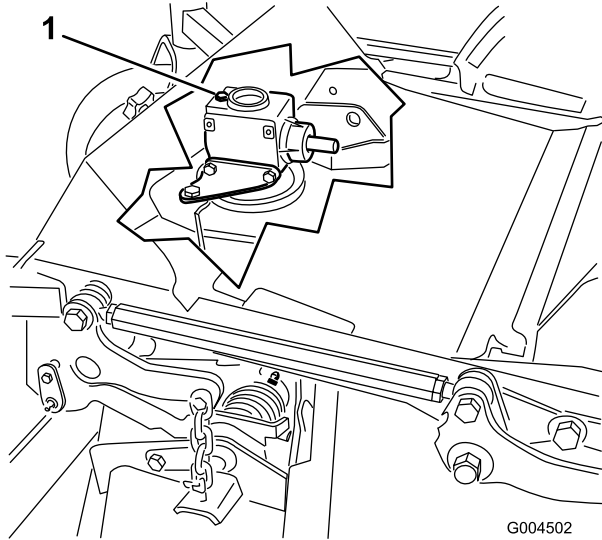

Figure 39
6. Remove the dipstick/fill plug from the top of the gear box (Figure 39) and make sure that the lubricant is between the marks on the dipstick.
6. Remove the dipstick/fill plug from the top of the gear box (Figure 39).